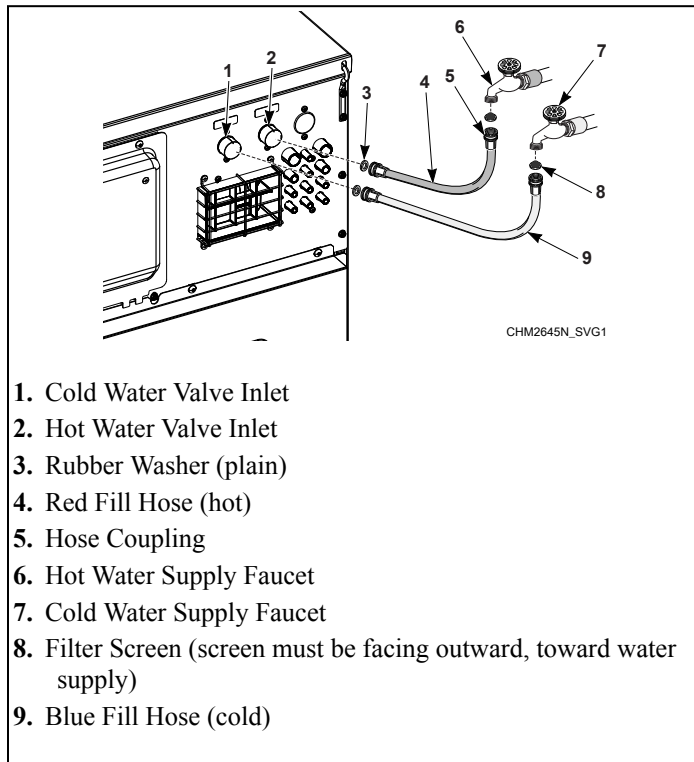

Figure 29
1. Before installing hoses, flush the building's water system at the machine connection valves for at least two (2) minutes.
2. Remove the two (2) plain rubber washers and two (2) filter screens from the accessories bag supplied with the machine.
3. Install one (1) plain rubber washer onto one end and one (1) filter screen into the other end of each fill hose. The screens must be facing outward toward the water supply. Refer to *Figure 29*.